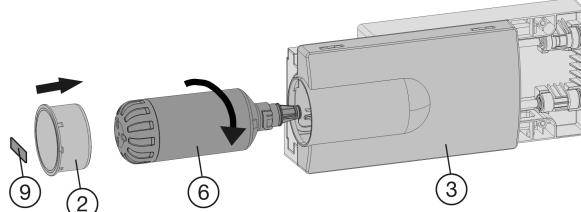

Fig. 41
- ▶ Place the tray cover Fig. 41 (3) into position.
- ▶ Remove the film from the water filter Fig. 41 (6).
- ▶ Insert the water filter Fig. 41 (6) and turn it approximately 100° to the right until it locks into position.
- ▶ Place the cover on the filter Fig. 41 (2).
- ▶ Write the date of the next filter replacement on the supplied adhesive label Fig. 41 (9) and affix it to the module.